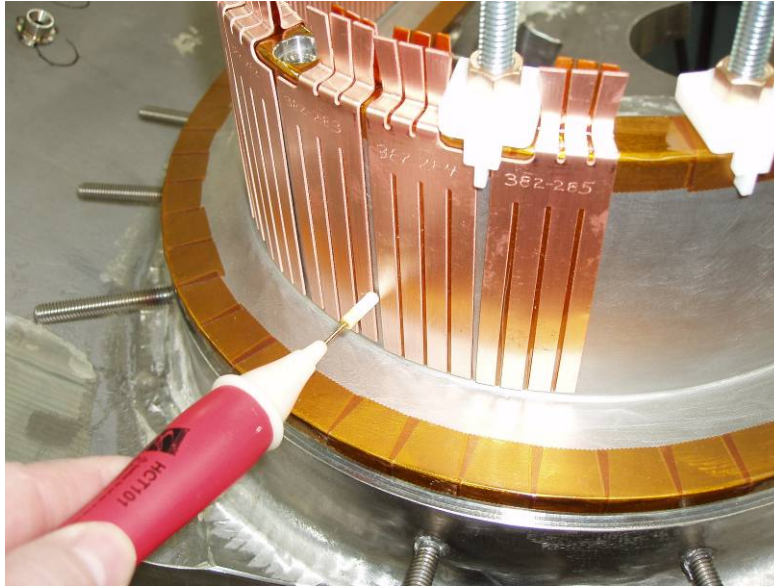

Figure 32-Verifying Cladding standoff w/Voltage Probe
- Under the oversight of a Quality Control representative a final check shall be made to verify that the cladding is positioned to the winding form with minimal buildup between cladding and the form. Using a voltage probe or multi-meter with a depth stop [<0.060 inch] insert the probe between each pair of cladding until the stop rests on the cladding surface. If the probe light is on, it indicates that the cladding is acceptable and within the required buildup. If the probe does not light, then the cladding piece must be removed and reapplied. [Figure 32-Verifying Cladding standoff w/Voltage Probe] Quality Control shall sign off that the cladding has been satisfactorily inspected.